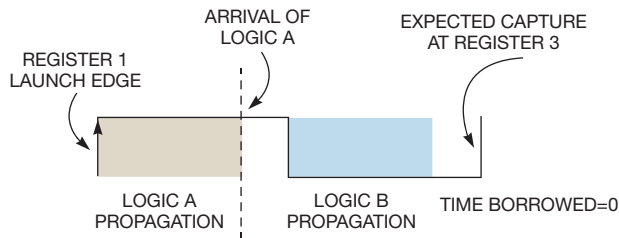
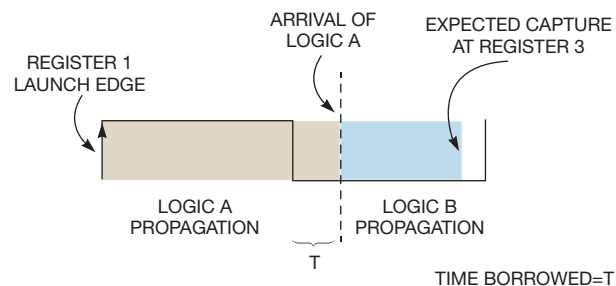
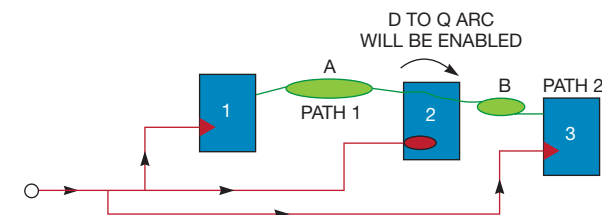

Figure 3 When Logic A is fast enough, no borrowing is necessary.
Figure 4 Logic A borrows time from Logic B.
Figure 5 When the latch is enabled, it essentially becomes a passive delay.
for the delay through the logic cloud (A). The logic in Path 1 incurs a delay, and, depending on the length of that delay, two possible scenarios of timing analysis can emerge. These scenarios decide how much time the design can borrow (figures 3 and 4).
In Figure 3, data arrives from Logic A at Latch 2 before the falling edge of the clock at the latch. In this case, the behavior of the latch is similar to that of a flip-flop, and the analysis is simple. You need not borrow any time to achieve your timing goal. In Figure 4, the negative clock edge enables the latch before the arrival of the signal from Logic A at the input of the latch, so the latch enters transparent mode and for a time transmits an undefined state from Logic A through to Register B. It is important that the new state from Logic A reaches and passes through Logic B in time to meet the setup requirements of Register 2. So, if Logic B has a short propagation delay, you can, in effect, let Logic A have some of the time you reserved
Static-timing analysis generates timing reports according to the examples shown in **figures 3 and 4**. However, the timing when the latch is enabled is the same as if the latch were simply a transparent delay element (**Figure 5**).
Returning to **Figure 4**, you'll note an interesting relationship between time-borrowing and the starting-point time. The variables include clock uncertainties, clock-path